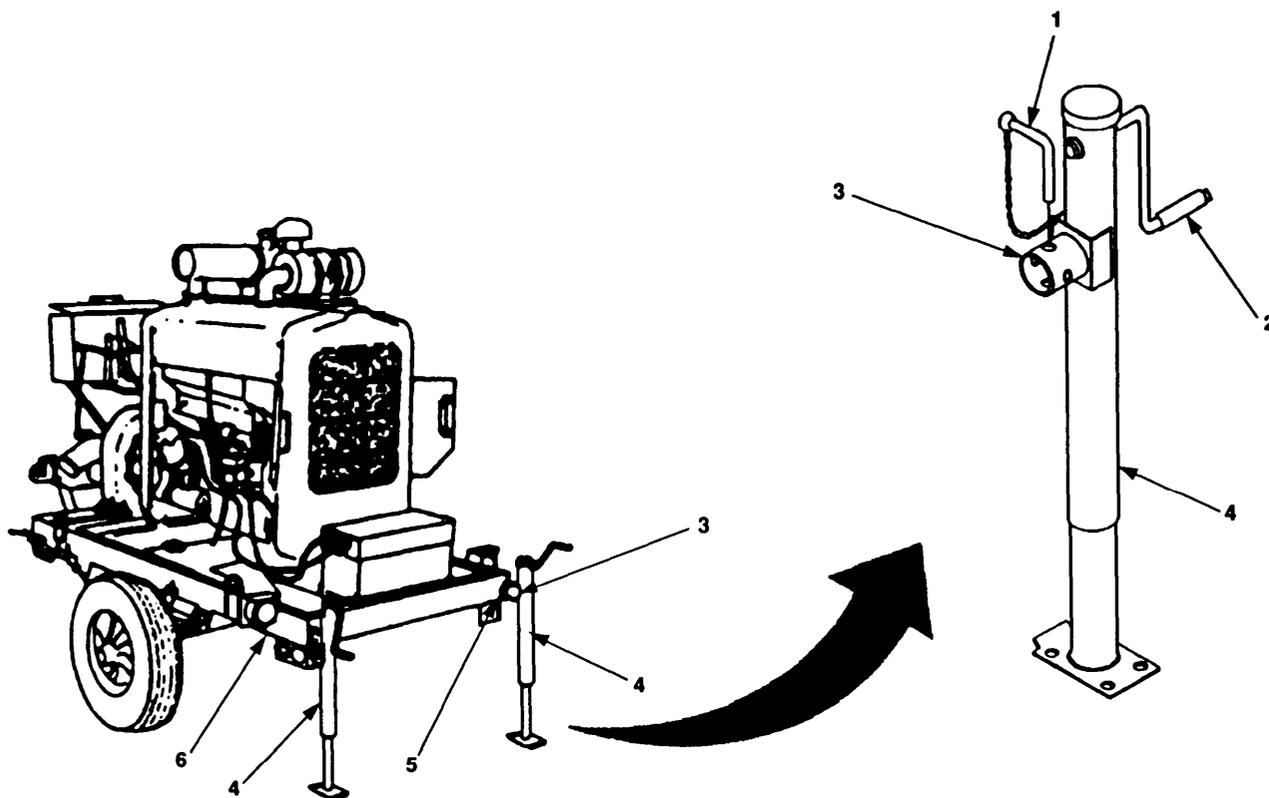

Figure 2-16. Rear Jacks.
- f. Refer to Figure 2-16 and reposition rear jacks from travel Position to operating position as follows: